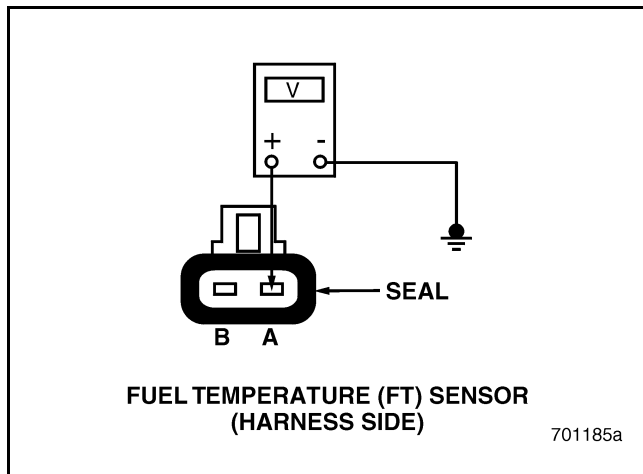

Figure 60
3. Measure the voltage between FT Sensor harness connector pin A and a good ground (see Figure 60).